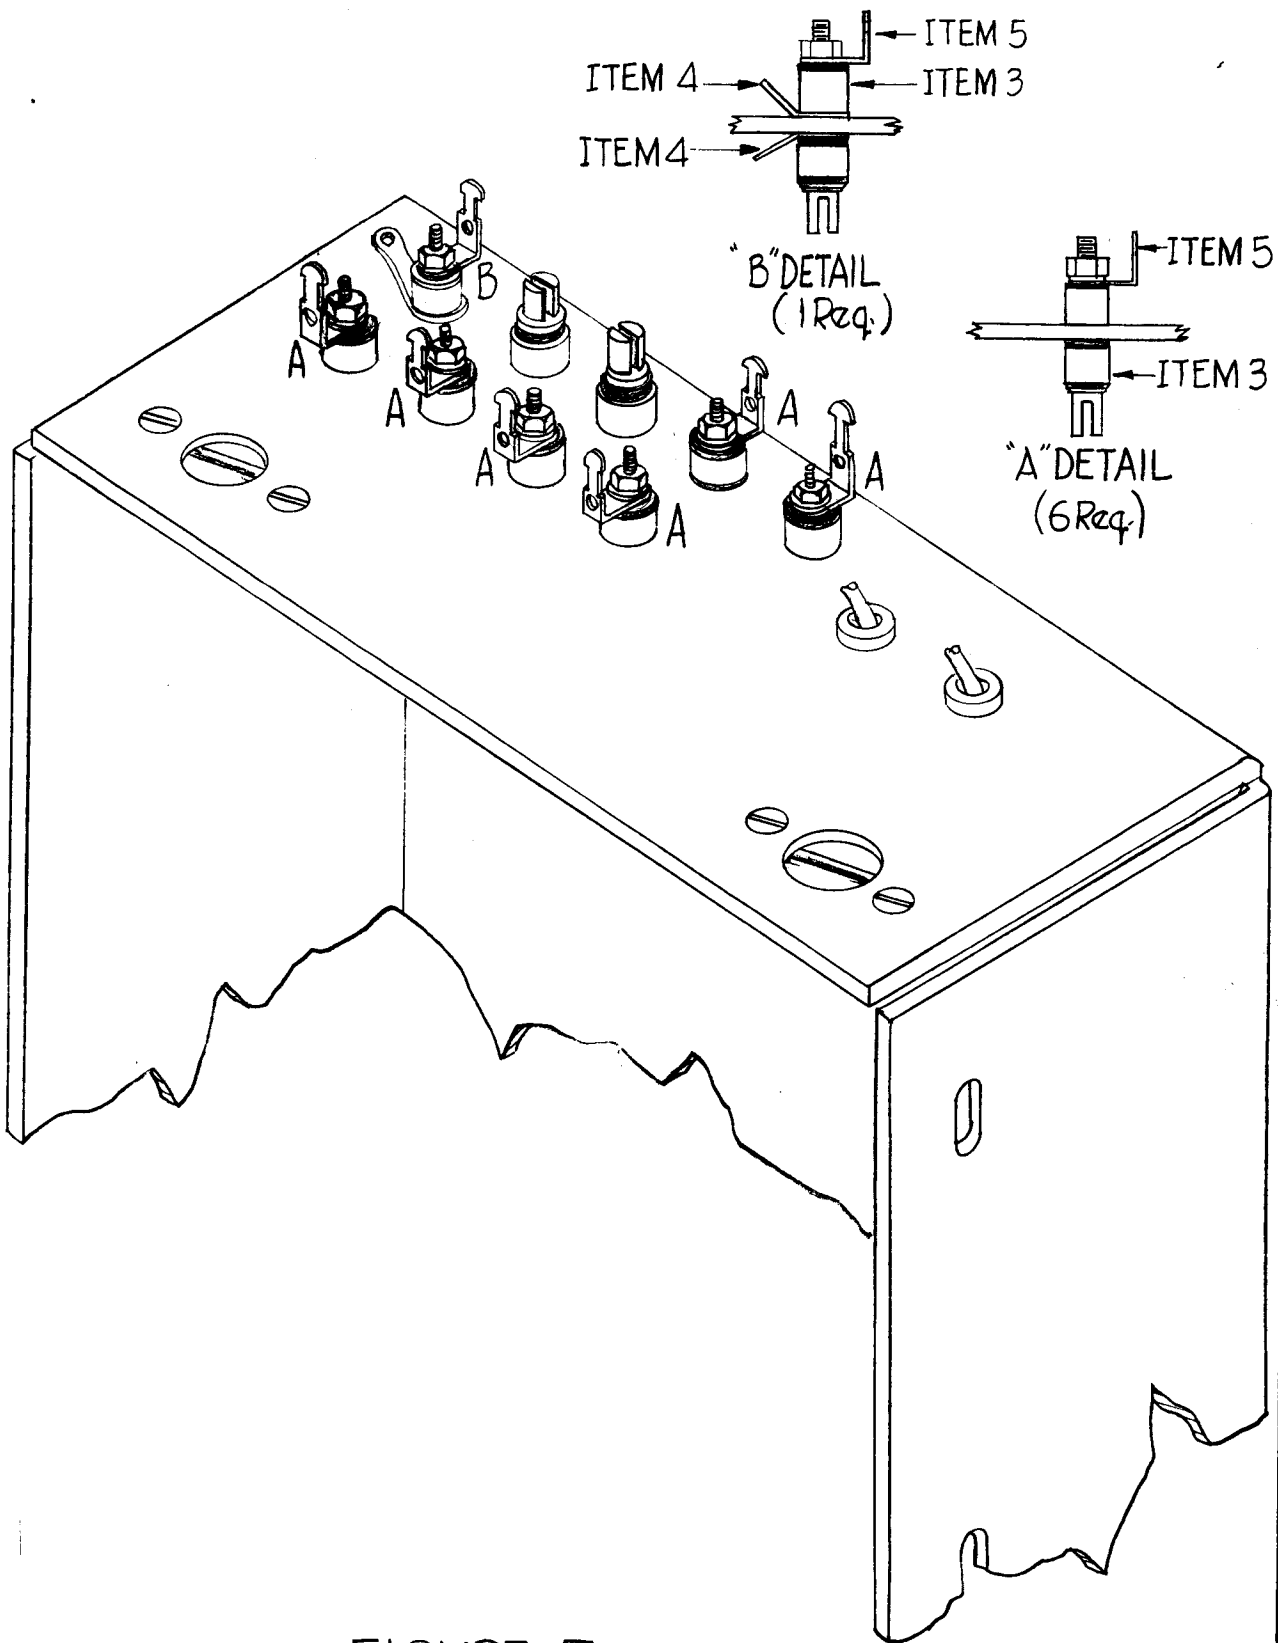

FIGURE 7
Do not connect the ground shield. (Figure 7).
IMPORTANT: One feedthru assembly must be mounted with two ground lugs (item 4) and all feedthru assemblies must be mounted with terminal lug (item 5) as shown in Figure 7.